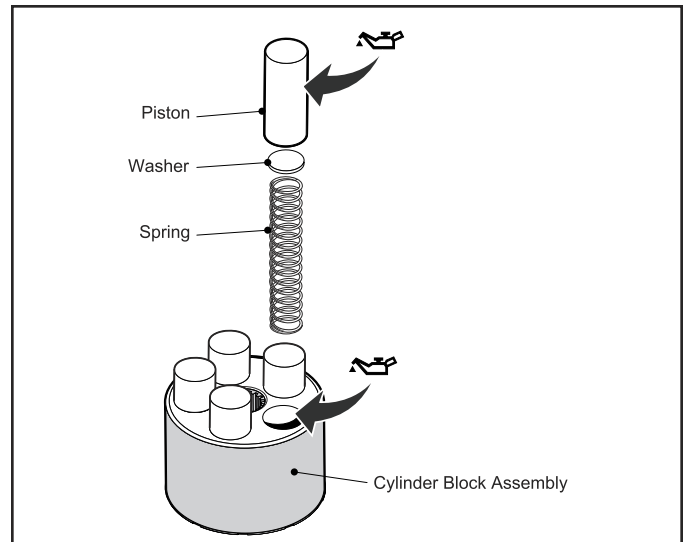

Fig. 21, Cylinder Block Assembly
1. Apply a coating of oil to each of the Pistons. (Fig. 21)
2. Place the (5) Washers, Springs and Pistons into the Cylinder Block. (Fig. 21)